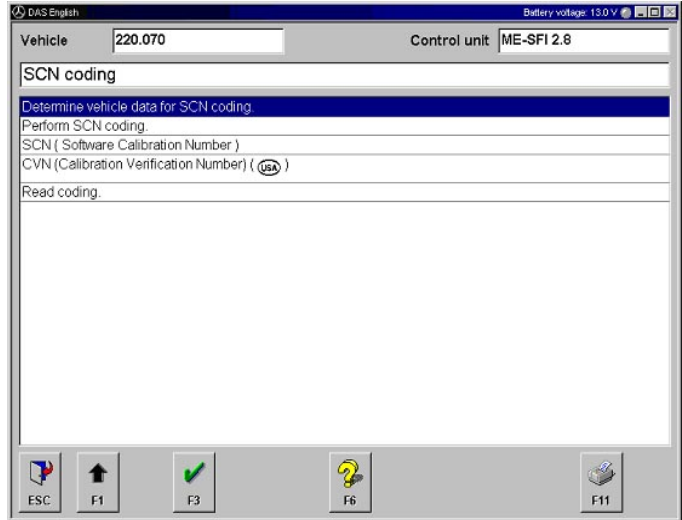

Figure 1
1. Determine vehicle data for SCN Coding (Figure 1)